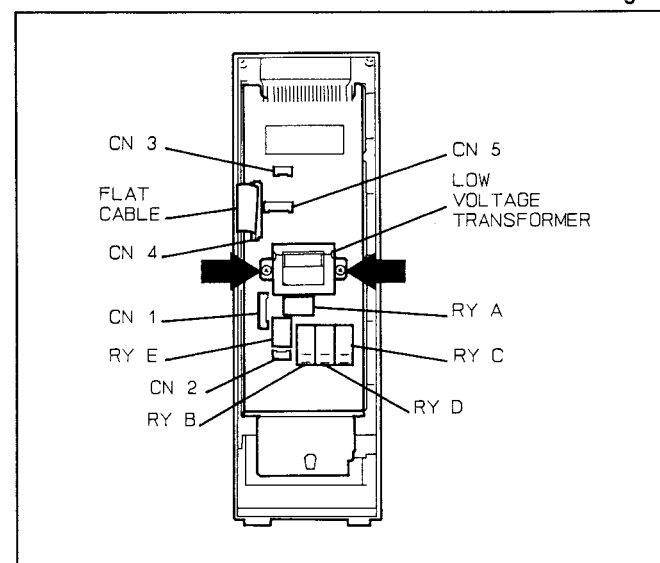

Fig. 20
- (D) Disconnect flat cable of membrane switch by pushing connector lever and pull it (Fig. 20).
- (E) Remove 2 screws holding the D.P.C.. (Fig. 20)
4. Replacement of the low voltage transformer and/or power relays (RY A, RY B, RY C, RY D, RY E) (Fig. 20)